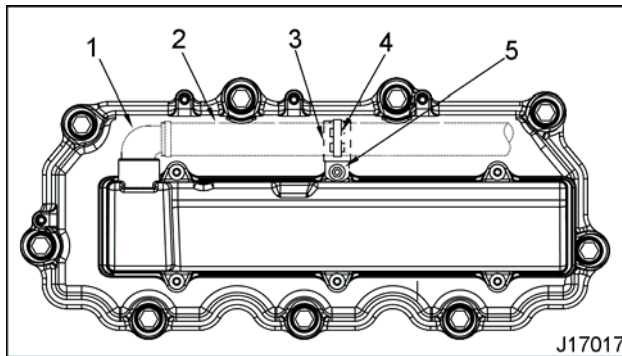

Figure 2 Crankcase Ventilation Hose Assembly Mounting
3. Remove the M6 hex nut from the upper center breather M6 x 43 x 15 stud bolt (Figure 2, Item 5). Remove and discard ladder clip (Figure 2, Item 3).
4. Remove the crankcase ventilation hose assembly (Figure 2, Item 2) by turning the elbow (Figure 2, Item 1) 90 degrees and pulling the crankcase ventilation hose assembly elbow out of the crankcase breather outlet. Remove the crankcase ventilation hose assembly from the engine.